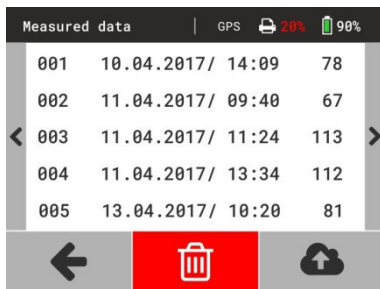

Figure 25
- Confirm button  by pressing the  key (Figure 25).